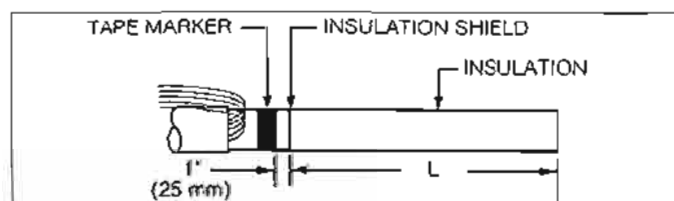

Figure 4.
- Dimension "L" is length of insulation shield to be removed for cable size. (Refer to Figure 4.)
- Measure 1" (25 mm) from end of insulation shield. (Refer to Figure 4.)